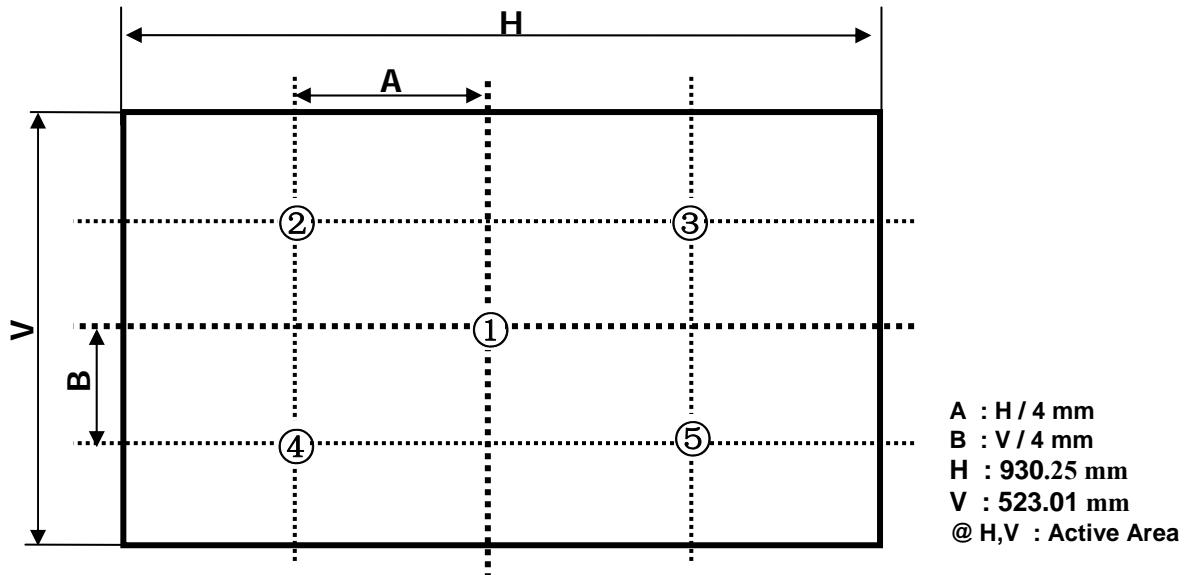

FIG.2 Measure Point for Luminance
n = the Position number(1, 2, 3, 4, 5), For more information, see FIG 2.
2. Surface luminance are determined after the unit has been 'ON' and 30min after lighting the backlight in a dark environment at $25 \pm 2^\circ$ C. Surface luminance is the luminance value at center 1-point across the LCD surface 50cm from the surface with all pixels displaying white. For more information see the FIG. 2.
For more information, see the FIG. 2.